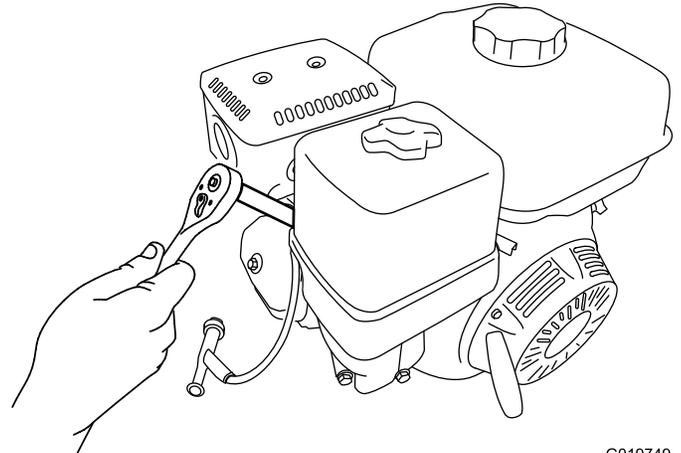

Figure 48
- Rotate the spark plug counterclockwise using a 13/16 inch (21 mm) spark-plug wrench to remove the plug and the sealing washer (Figure 48).
2. Rotate the spark plug clockwise using a 13/16 inch (21 mm) spark-plug wrench until the plug and sealing washer are seated (Figure 48).